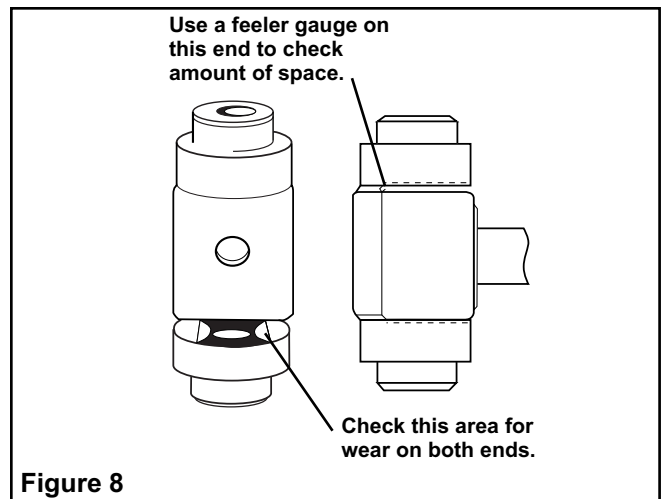

Figure 8
4. Inspect the Connecting Rod. If there is more than .007" wear in the total space between the Connecting Rod and Cam Bearing, the Connecting Rod should be replaced. This can be determined using a feeler gauge. The Cam Bearing should also be inspected as a bad cam bearing is the most common cause of a damaged Connecting Rod. A worn Connecting Rod results in low volume, low pressure, a hammering sound and the pump running hot (See Figure 8).
5. Inspect Crankshaft Assembly for general wear. Rotate Cam Bearing and Main Bearings to check for roughness due to moisture contamination or lack of grease. If main bearings do not turn smoothly or appear to be damaged, they should be replaced. If cam bearing is damaged, a new Crankshaft Sub-assembly should be installed and the connecting rod inspected for wear (See Figure 8).